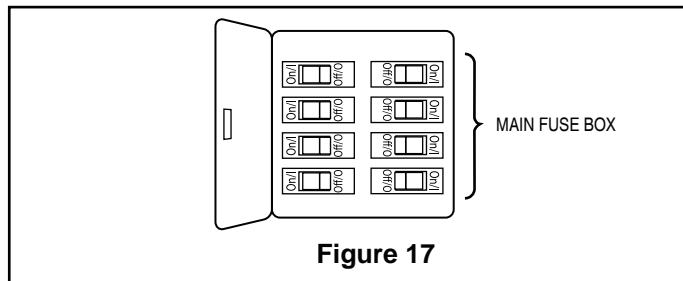

Figure 17
- 1. Restore electrical power to the outlet box by turning the electricity on at the main fuse box. (Figure 17)